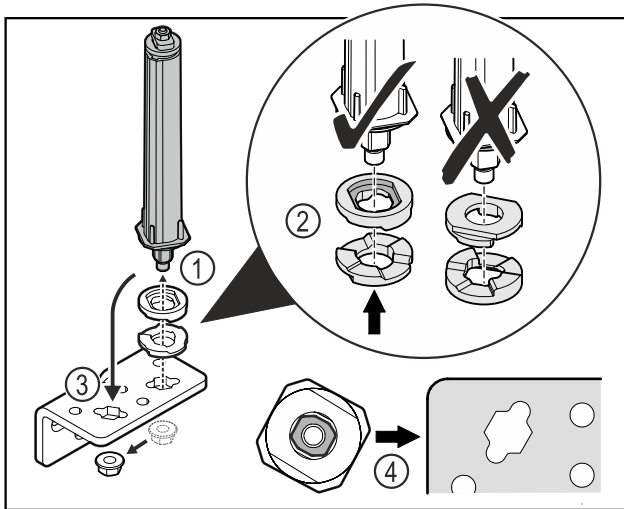

Fig. 40
- ▶ Loosen the nut and remove the door closing system Fig. 40 (1).
- ▶ Observe the correct alignment of the height adjustment washers Fig. 40 (2).
- ▶ Put the door closing system in the hinge and fix in place with the nut Fig. 40 (3).
- ▶ Observe the correct alignment of the door closing system when doing so Fig. 40 (4).